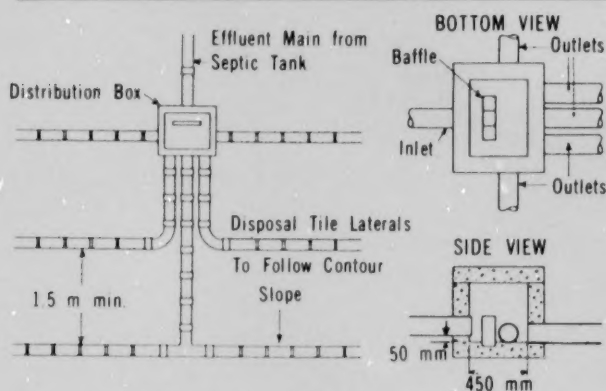
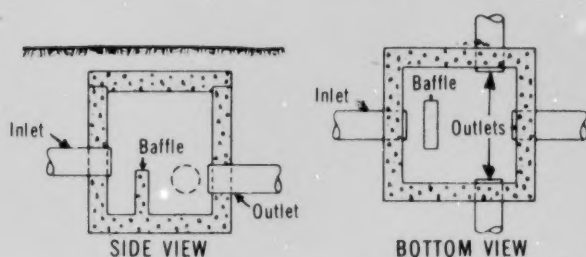
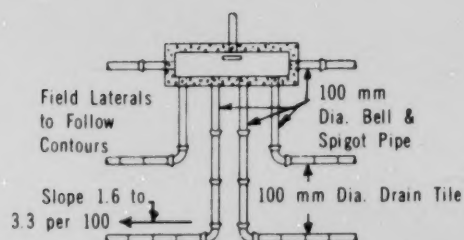

Figure 24-13. Field Design for Equal Distribution to All Laterals — for Hillside or Non-Flushed Disposal Fields
Figure 24-14. Distribution Box for Fairly-Level Ground Conditions
Figure 24-15. Distribution Chamber for Sloping Ground Conditions
b) Authorities agree that a distribution box is desirable in supplying all laterals equally, particularly where a siphon chamber is not used. Figure 24-13 shows details of one type of distribution box.
c) Figure 24-14 shows a somewhat differently constructed distribution box. Notice the difference between levels of the inlet pipe in both types. The outlets in the one in Figure 24-13 are located so that no liquid could remain in the box. There are advantages in both designs. It is important that all pipes in the box be cemented in place to make them watertight. A different-shaped box is shown for sloping disposal fields (Figure 24-15).